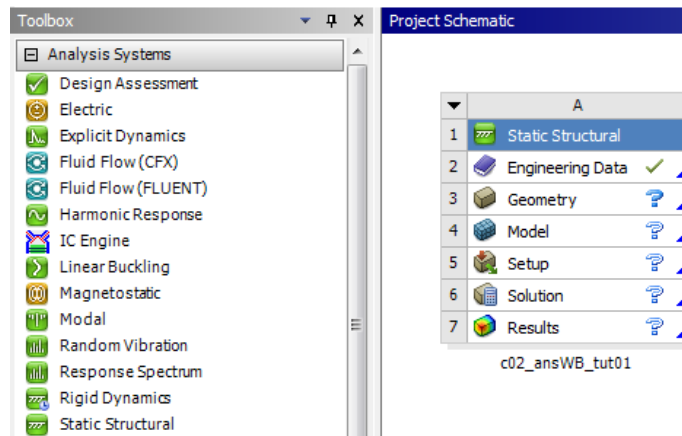

Figure 2-43 The *Static Structural* analysis system added to the project
2. Once the project is added to the **Project Schematic** window, its name is highlighted at the bottom of the analysis system in blue. If it is not highlighted, double-click on the name and enter **c02_ansWB_tut01**, as shown in Figure 2-43. The analysis system is renamed.